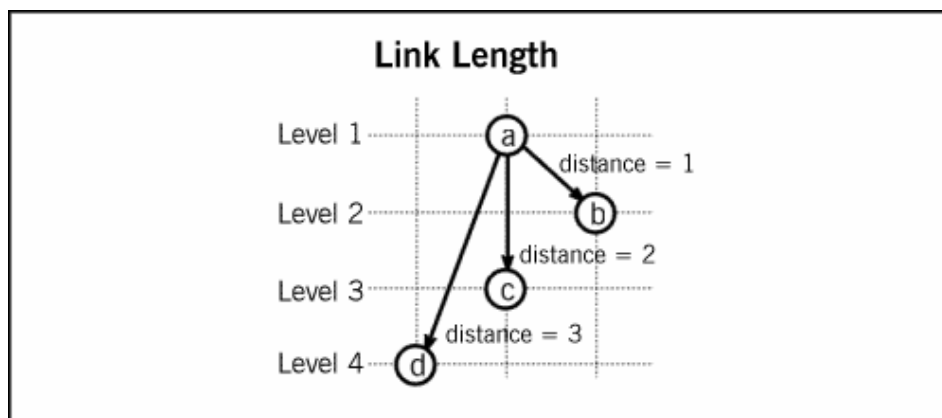

Figure 144: Schematic representation - Level length
- Link length:** By providing an integer value  $n$  for this parameter you can define how many layers ( $n-1$ ) should be spanned by an instance of this class (see fig. 144). If instances of different relation classes meet at an object, the maximum number of layers is calculated.